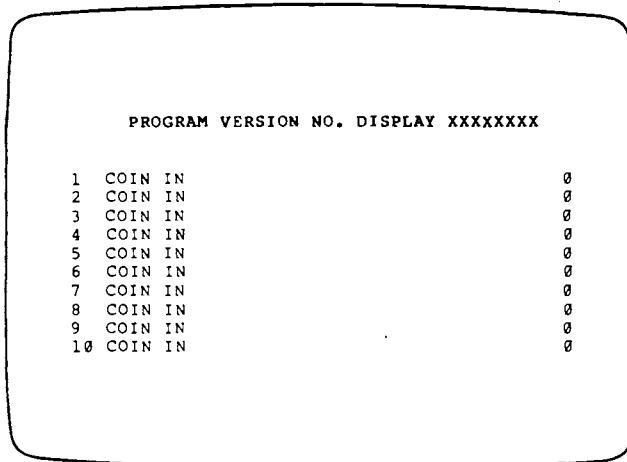

Figure 4-9
- 2) The next screen provides coin-in information for the number of coins played. See Figure 4-9.